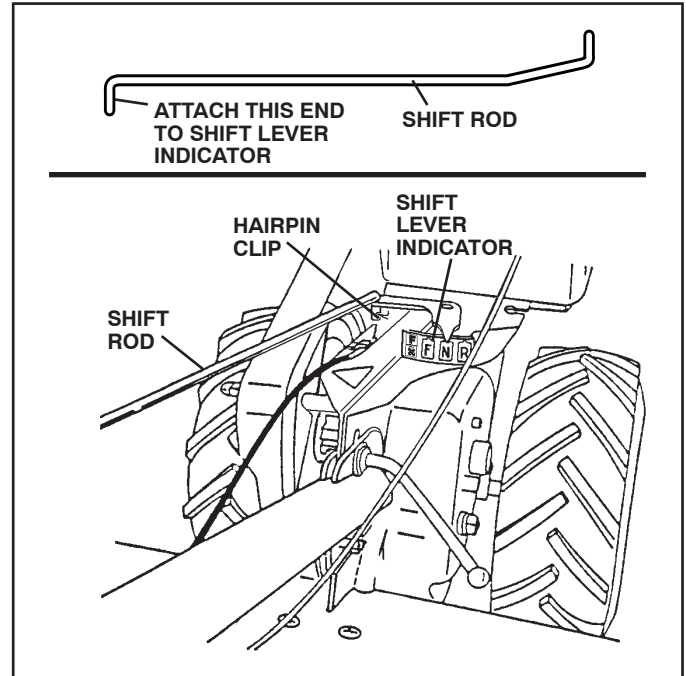

FIG. 7
## CONNECT SHIFT ROD (See Fig. 7)
- Make sure shift lever indicator is in "N" (neutral) position (See Fig. 7)